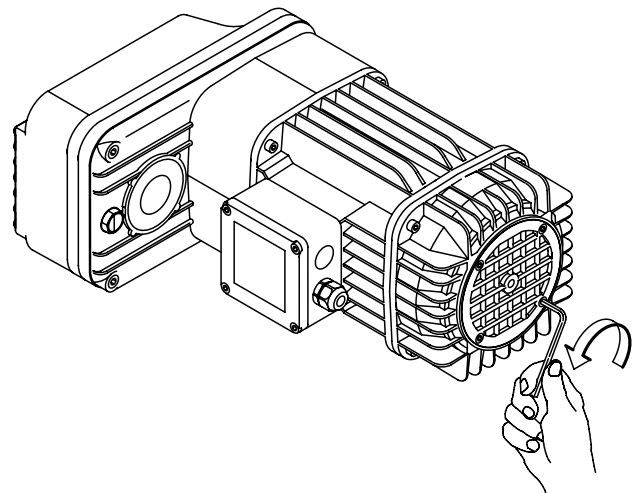

fig. 154
2. Operating from the raised work area, remove the plastic grid (vent) by completely unfastening the four screws (fig. 154).
1. Operating from the raised scaffolding/platform, remove the protective grid (vent) positioned on the brake cover by completely unfastening the four screws (fig. 154).